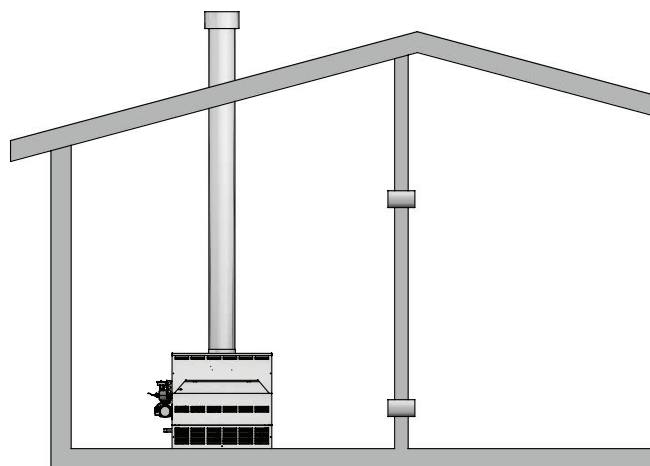

Figure 1-4_Combustion Air from Interior Space
3. If air is taken from another interior space that is adequately ventilated, each of the two openings specified above should have a net free area of one square inch for each 1000 Btu/hr (22cm² per kW) of input, but not less than 100 square inches (645cm²) (see FIG. 1-4).